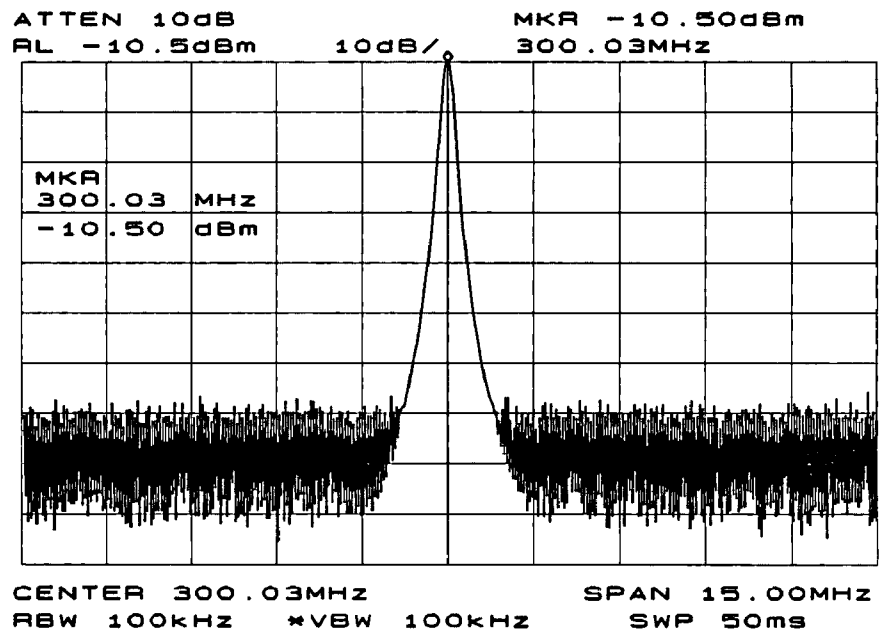

Figure 3-13. Input Signal Displayed in a 15 MHz Span
1. Using the setup from the previous example, press **OFF** to clear the markers from the screen. To measure the fundamental, press **PEAK SEARCH**. Press **MARKER→CF** to move the fundamental to the center frequency and then press **PEAK SEARCH** and **SIG TRK ON**. Reduce the frequency span to 15 MHz by pressing **SPAN 15 MHz**. The signal track function allows you to "zoom" quickly to a narrower span without losing the signal from the screen. After the span is reduced, turn off the signal track function. Next, set the center frequency step size to 300 MHz by pressing **MKR→** and **MKR→CF STEP**. The resulting display should resemble Figure 3-13.